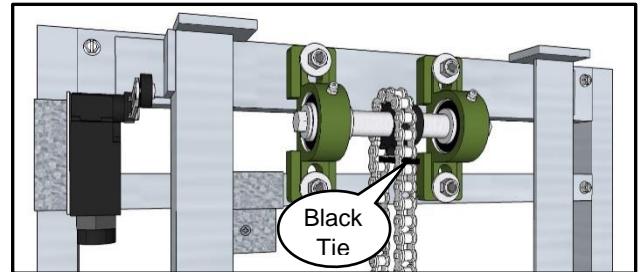

Figure 6
- NOTE:** Do not cut the black plastic tie! (see Figure 6)
- 7** Cut black plastic tie off. (see Figure 6)